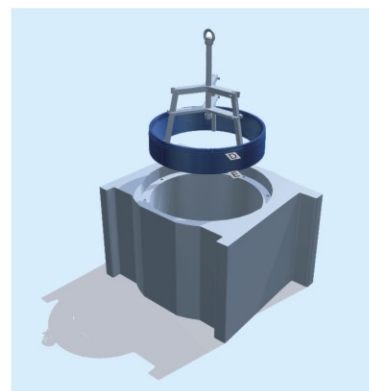

Fig.7-6 : Mounting the cup D-E and spacer D
- Turn the chock on the horizontal position with the open side up, then install the oil seal and cup D-E with side E down and DD spacer; the lines indicating load zone of cup are in alignment, Each component should be installed in line with correct series number. Spacers are used to determine the clearance, these must not be mixed up. Cones should be turned when assembling, so as to put every parts in its exact target location on the shaft. (Fig 7-6)